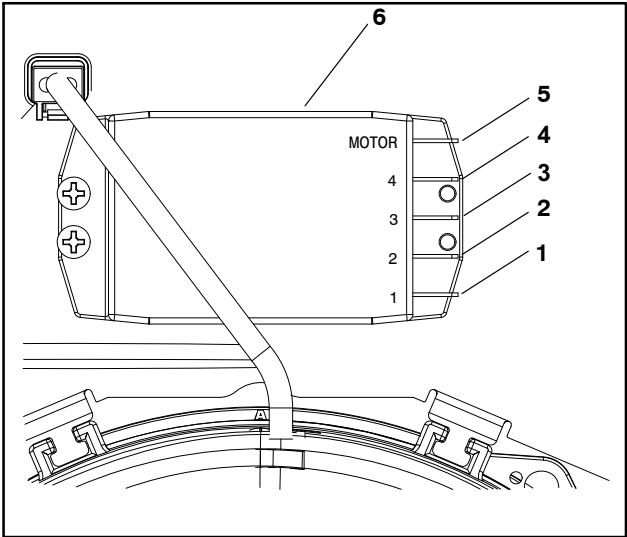

Figure 65
4. Use a multimeter to check that the resistance values of the resistor module as below (Fig. 65).
7. After you complete the testing, connect the wire harness connectors to the resistor module terminals (Fig. 65) and install the sunshade.